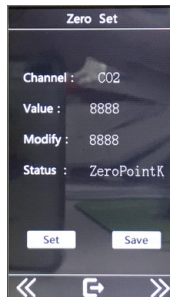

Figure 9
A) presstheleftandrightkeystoswitchtheselectionchannel.As shownin figure 9 click "Settings", modify the value to display the current zero value, click "save" when the value is stable, and click "modify state" to display complete modification, and click "exit" to return to the detection interface.